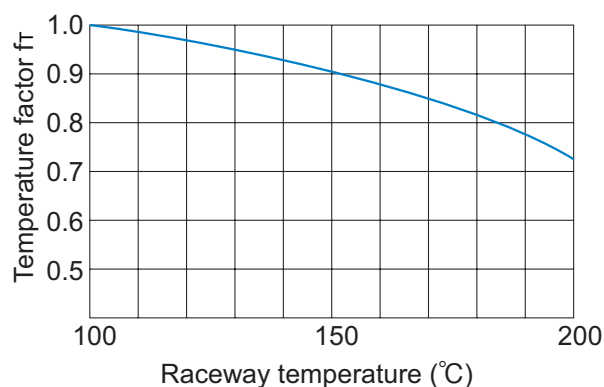

Fig.3 Temperature Factor ( $f_T$ )
- $f_T$  : Temperature factor (see Fig.3 on A-557)
If the temperature of the environment surrounding the operating model ST exceeds  $100^\circ\text{C}$ , take into account the adverse effect of the high temperature and multiply the basic load ratings by the temperature factor indicated in Fig.3.